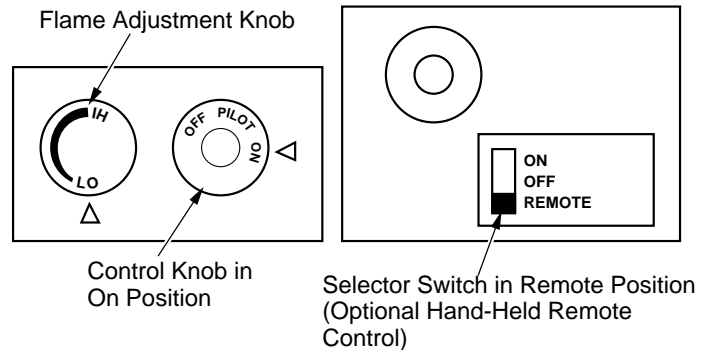

Figure 41 - Setting the Selector Switch, Control Knob, and Flame Adjustment Knob for Remote Operation
1. After lighting, let pilot flame burn for about one minute. Turn control knob to ON position. Adjust flame adjustment knob anywhere between HI and LO. Slide the selector switch to the REMOTE position (see Figure 41). **Note:** The burner may light if hand-held remote was on when selector switch was last turned off. You can now turn the burner on and off with the hand-held remote control unit.